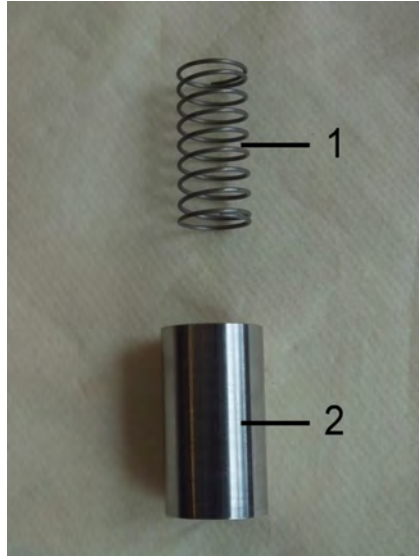

Fig. 55: Inner parts
6. ➔ Insert spring (Fig. 55/3) into the float (Fig. 55/2), ensuring proper magnetic pole orientation (north pole toward device outlet).